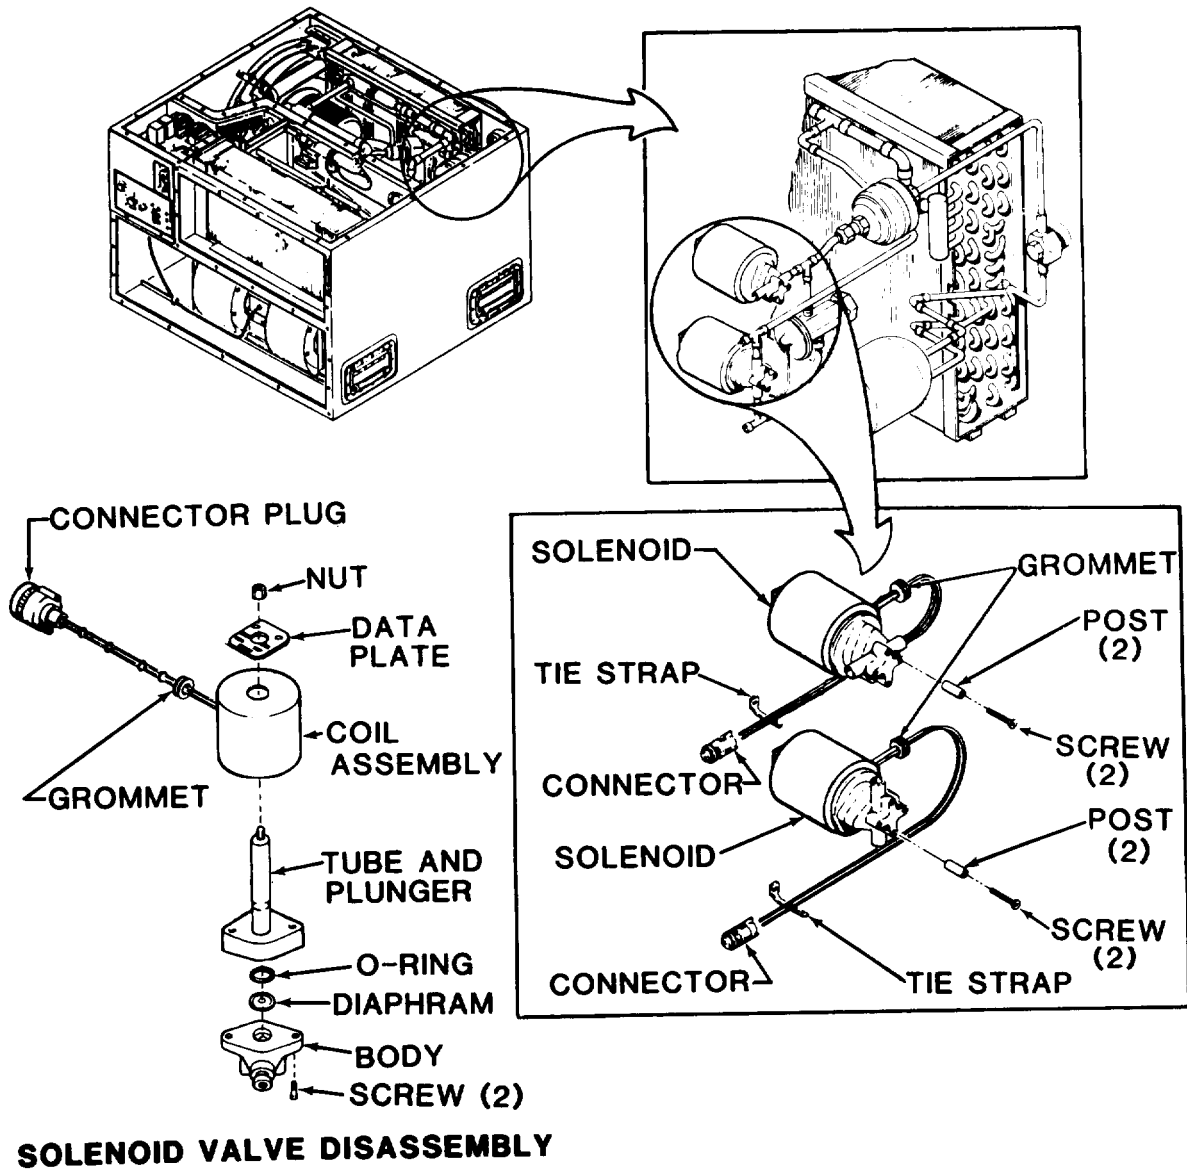

Figure 5-12. Solenoid Valves
a. Removal. (See fig. 5-12.)
- (1) Disconnect power at power source.
- (2) (Models F18H-3S and F18H-1S) Remove all three top covers (para 4-11). (Models F18H-3SA and F18H-3SB) Remove top cover (para 4-11).
(3) Secure valve body to housing with hardware and brackets shown on figure 5-12.
(4) Reassemble internal components in the valve body and install the tube and plunger assembly, and two attaching screws.
(5) Install coil and connector assembly, data plate, and attaching nut on valve body.
(6) Connect connector plug.
(7) Replace dehydrator. (See para 5-31.)
(8) Leak test all newly connected joints and all tube connections in the area.
(9) Secure wires to existing harnesses with new plastic tie down straps or lacing cord.
(11) Evacuate and charge the refrigerant system in accordance with paragraphs 5-15 and 5-16.